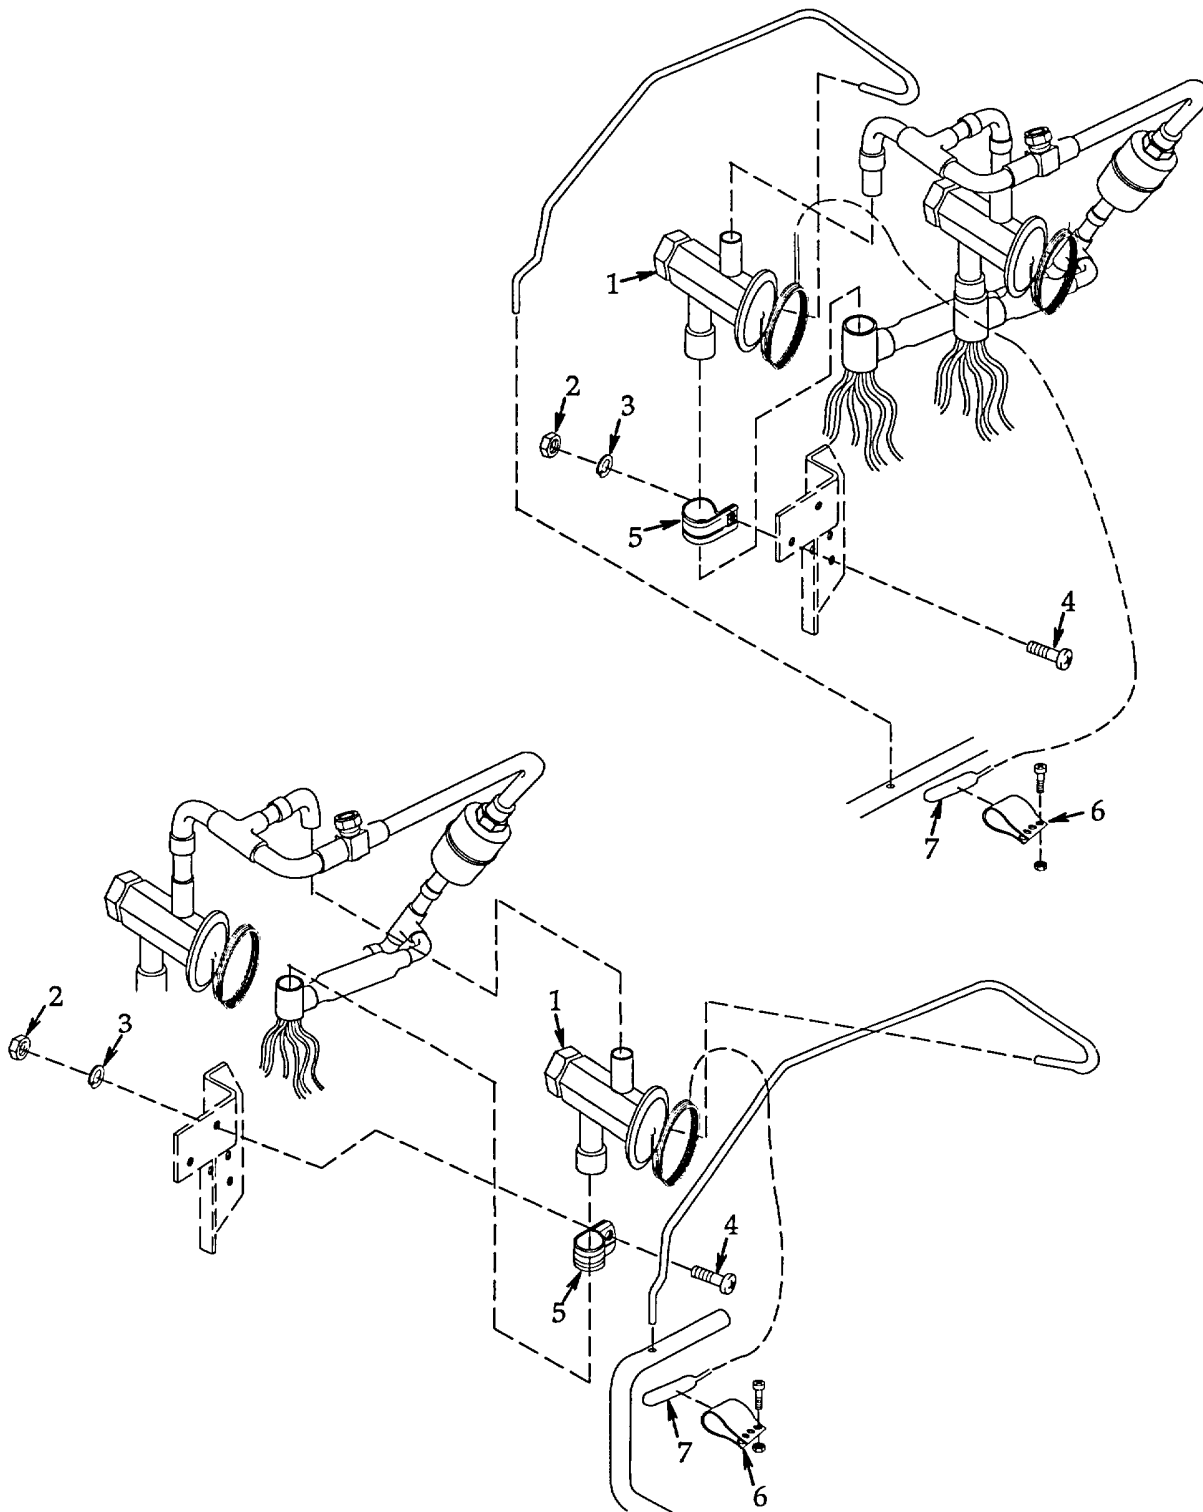

Figure 5-10. Expansion Valve
- a. **Removal.** See figure 5-10.
- b. **Installation.** See figure 5-10.